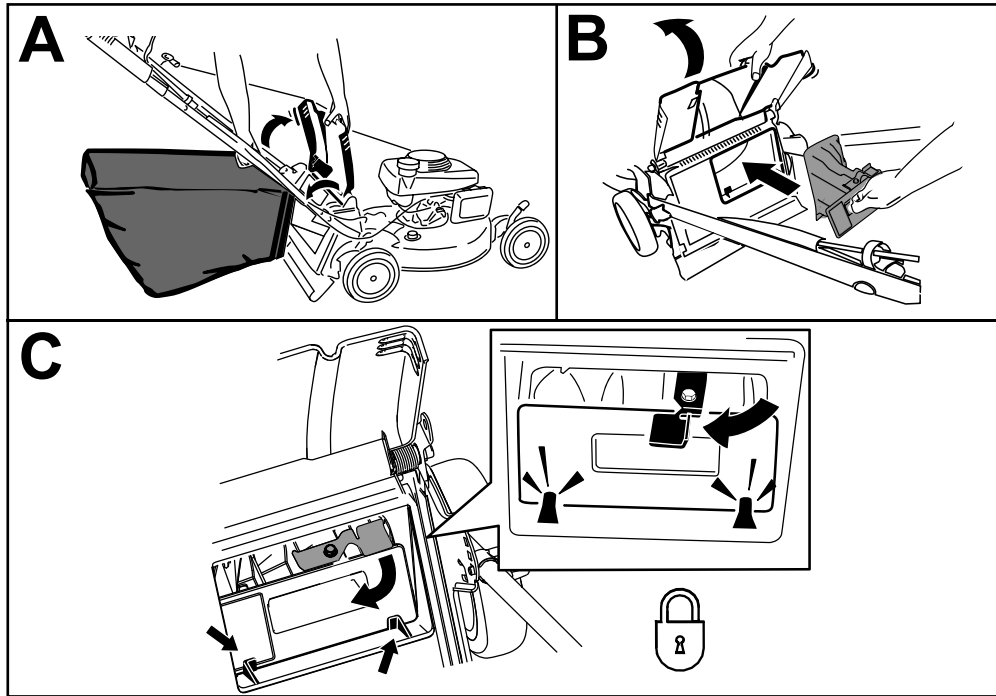

Figure 24
1. Raise and hold up the rear deflector and lift the grass bag up by the handle off the notches of the handle brackets (A of Figure 24).
2. Install the rear plug (B of Figure 24).
Important: Ensure that the rear plug is locked in place. To lock the plug, firmly push the plug in until it snaps into place behind the tabs, and rotate the lever on the plug to the left (C of Figure 24).